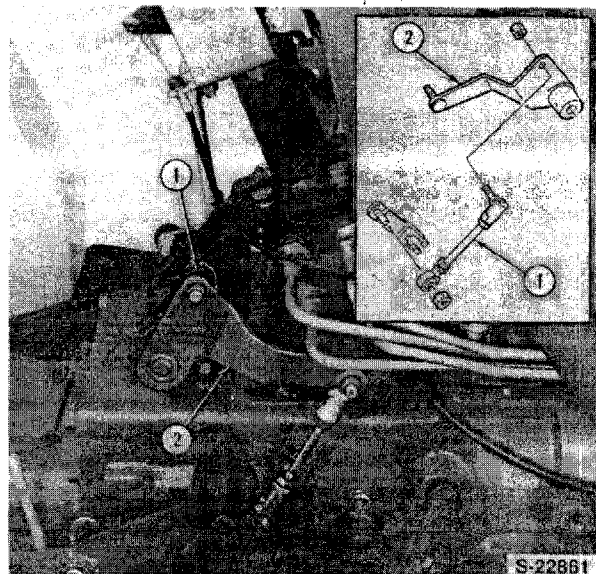

Figure 41
2. Disconnect the HST control rod (1), Figure 41.